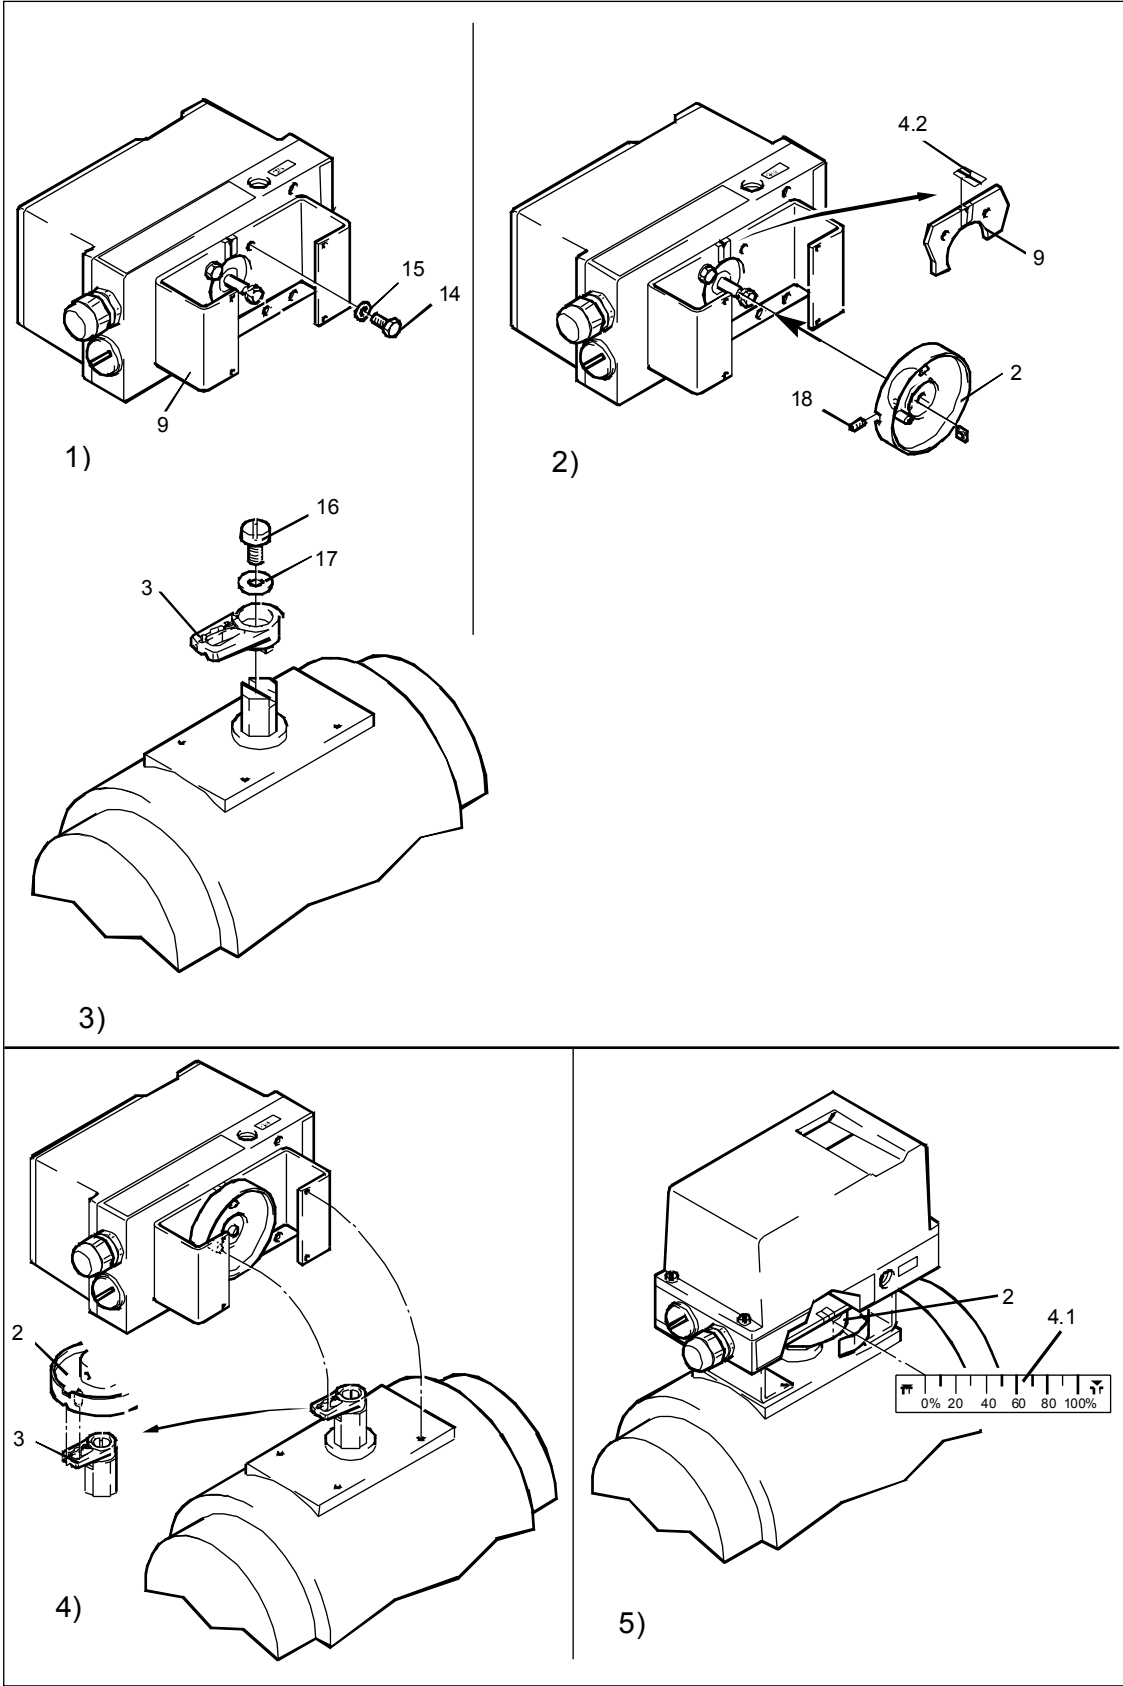

Figure 5 Assembly procedure for VDI/VE 3845 rotary actuator
Included with the "VDI/VDE 3845 rotary actuator" mounting kit are (see Figure 5 for identifying numbers):
3.4.1 Assembly procedure (see Figure 5)